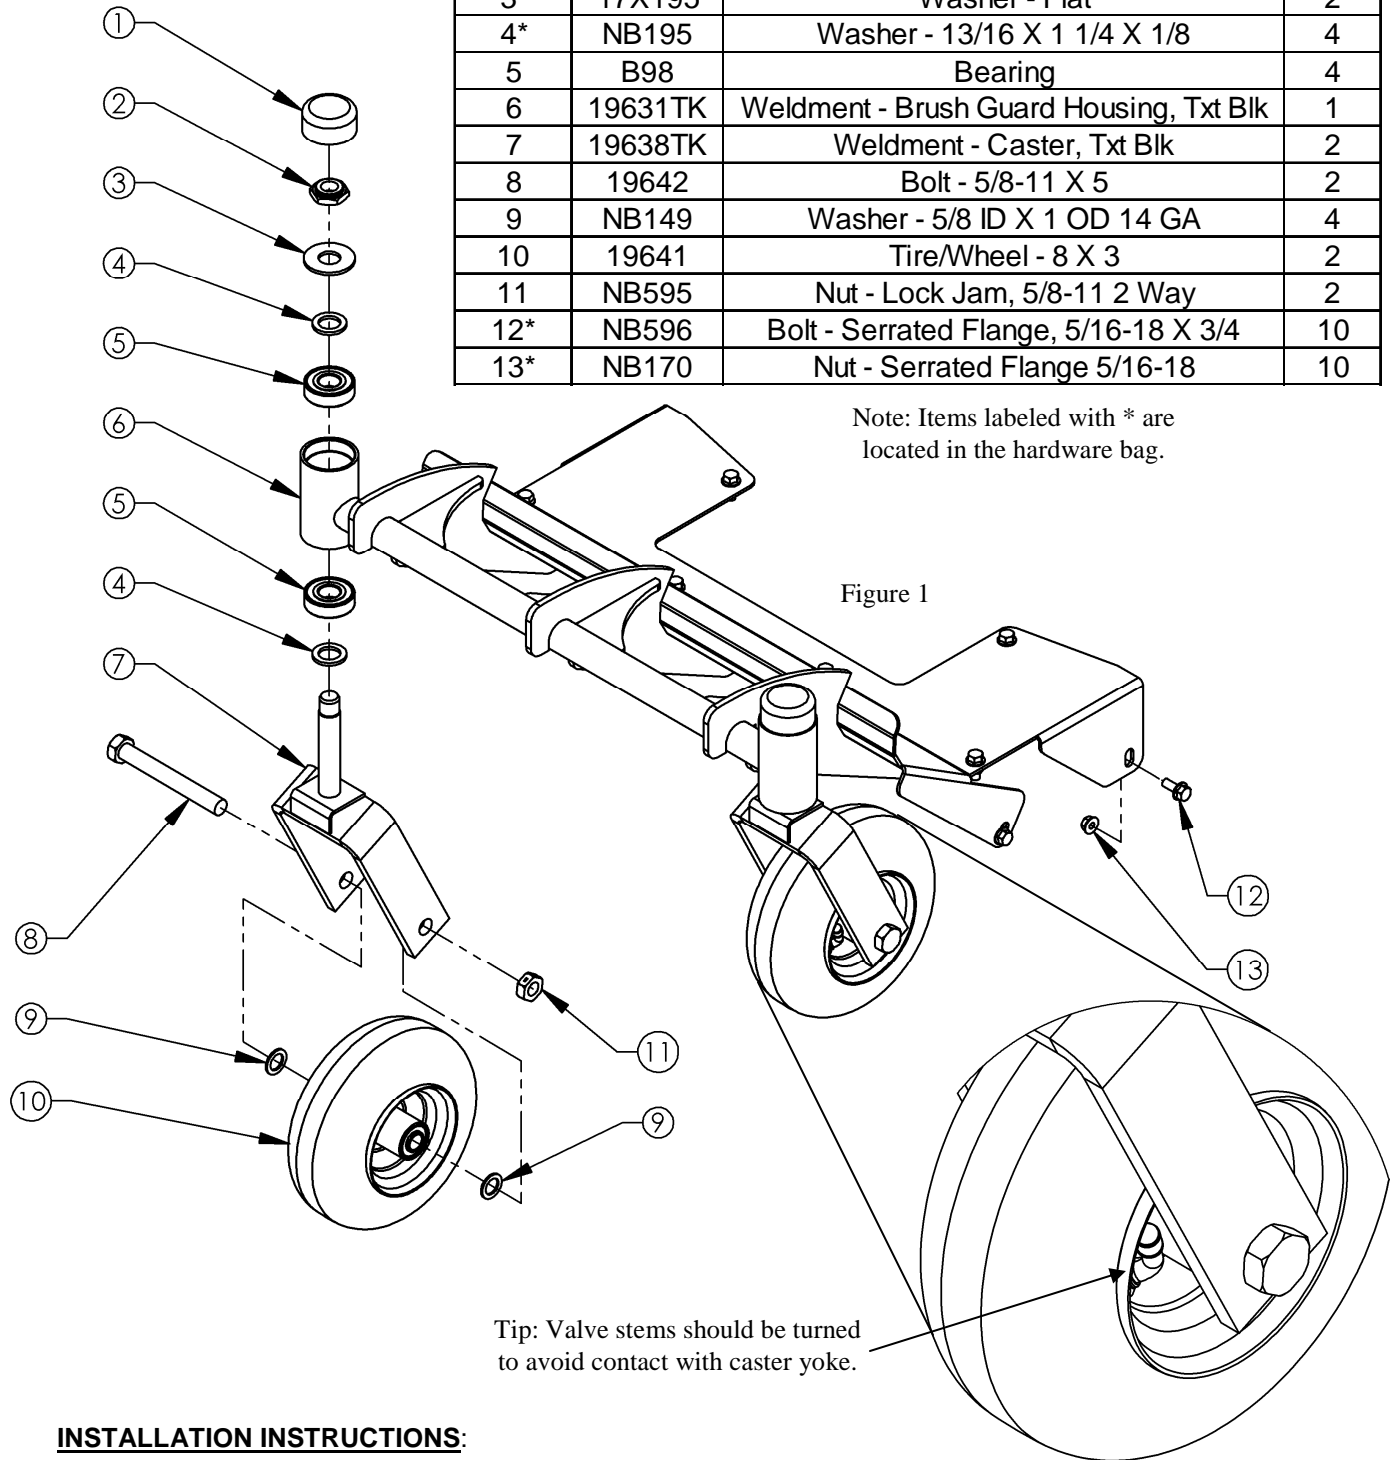

Figure 1
- Assemble the casters to the brush guard using the hardware from the hardware bag in the order shown in Figure 1. Using a 1-1/16" wrench, tighten item number 2 (NB122) enough to engage the nyloc portion of the nut while still allowing the caster to rotate freely. Item numbers 12 (NB596) and 13 (NB170) will be installed in a later step.